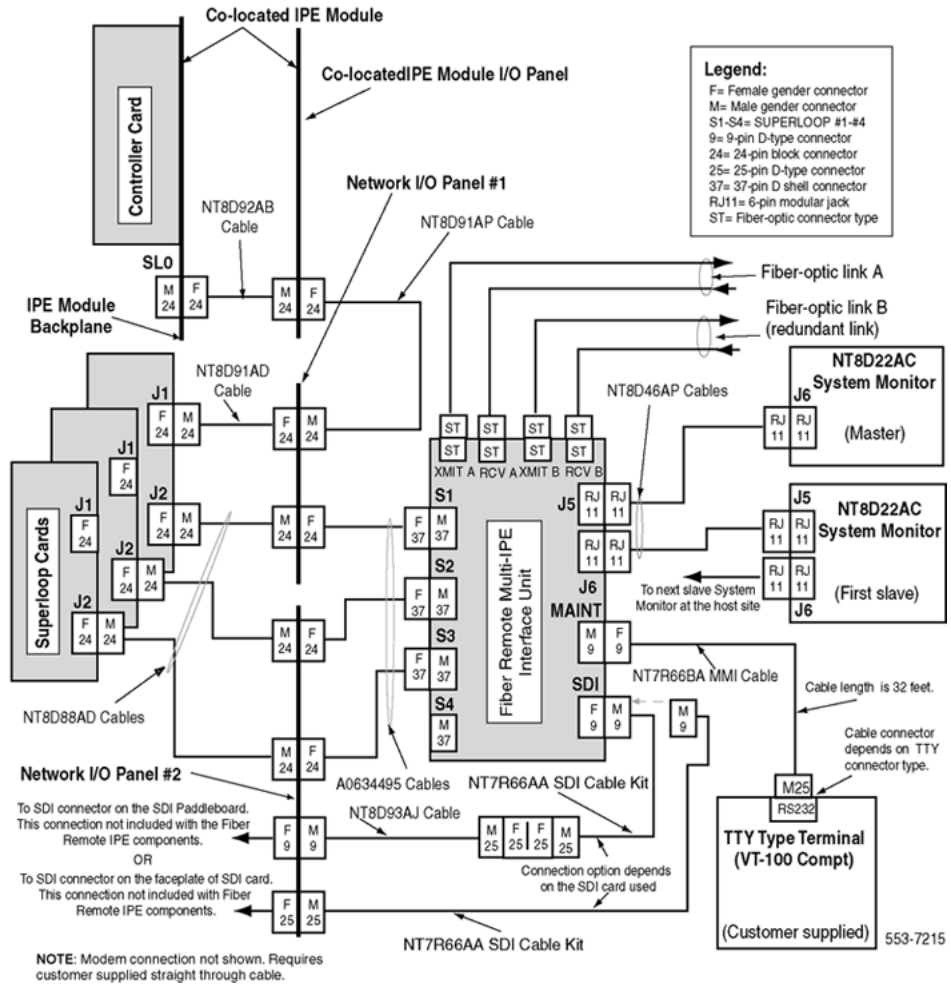

Figure 15: Local site single Fiber Remote Multi-IPE Interface unit cable connection diagram
- Figure 15: Local site single Fiber Remote Multi-IPE Interface unit cable connection diagram on page 134 shows a network of Superloop Network cards, including:
- Shows three SUPERLOOPS, which are extended from the local site. Refer to Figure 15: Local site single Fiber Remote Multi-IPE Interface unit cable connection diagram on page 134, where SUPERLOOP #1 supports one entire IPE Module, SUPERLOOP # 2 and SUPERLOOP #3 support the second IPE Module. SUPERLOOP #4 is not equipped in this example.